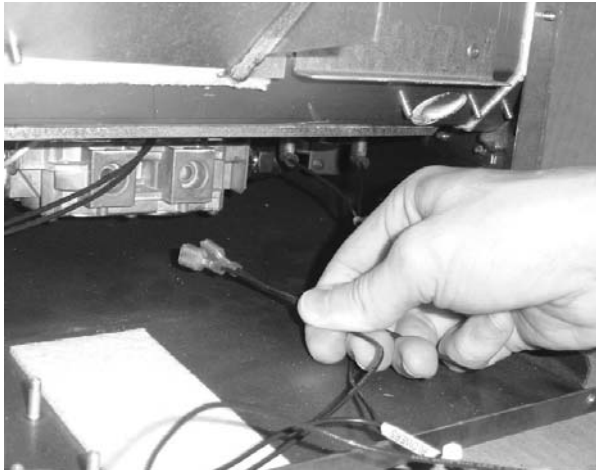
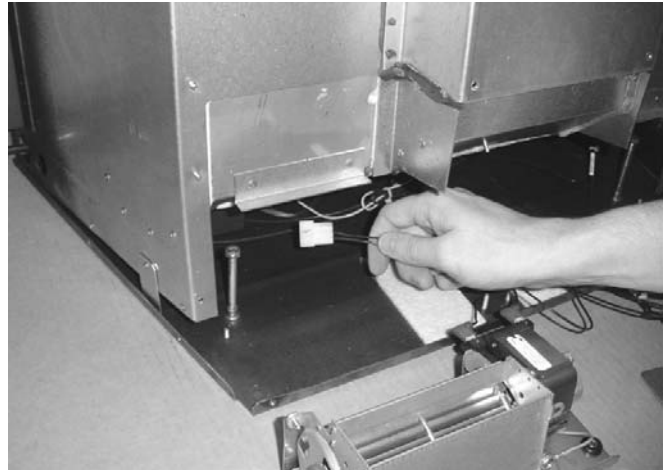

Figure 11
Figure 12
- 6 Route the two remaining wires under the gas control valve (see Figure 11). Route the power input molex connector to the right of the insert, near the power cord (see Figure 12).